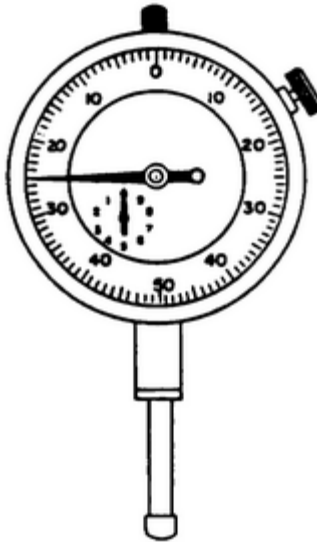

FIGURE 48. DIAL INDICATOR
9. A Shown on Figure 48 in question